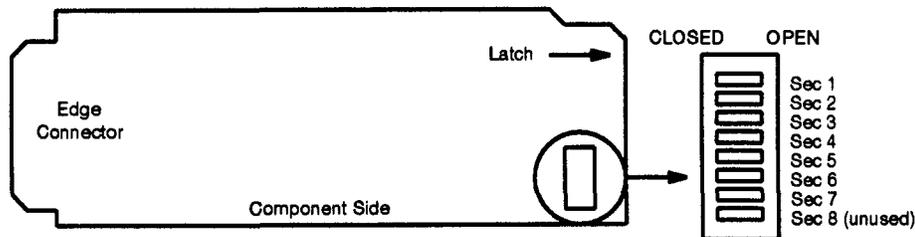

Figure 4. AEK37 DS1C INTFC1 Option Settings
10. Refer to **Figure 4** and set the option switches according to **Tables E** and **F**. Note that switch section 8 is unused.